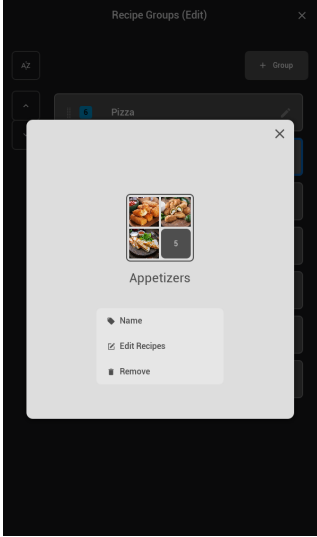

Figure 22: Edit Group Options
- 1. Select an option (Figure 22).